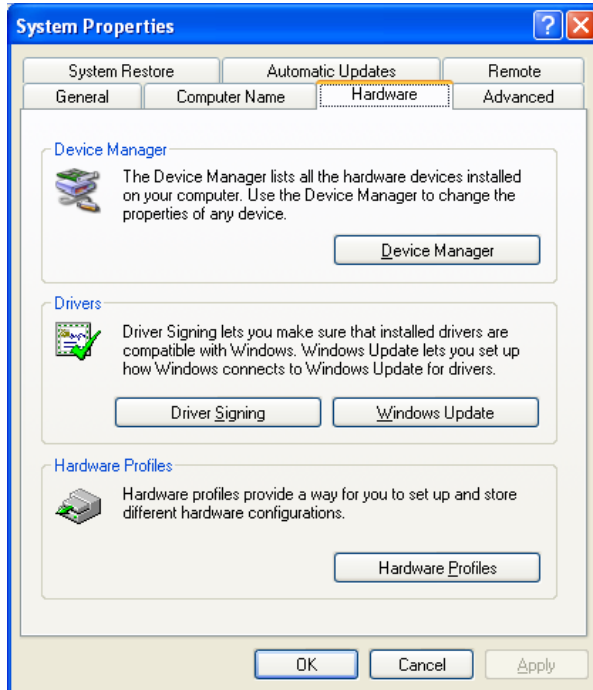

Figure 2-8 System Properties Dialog—Hardware Tab
2. To determine which COM port the system is connected to, go to **Control Panel > System > Hardware** (Figure 2-8).